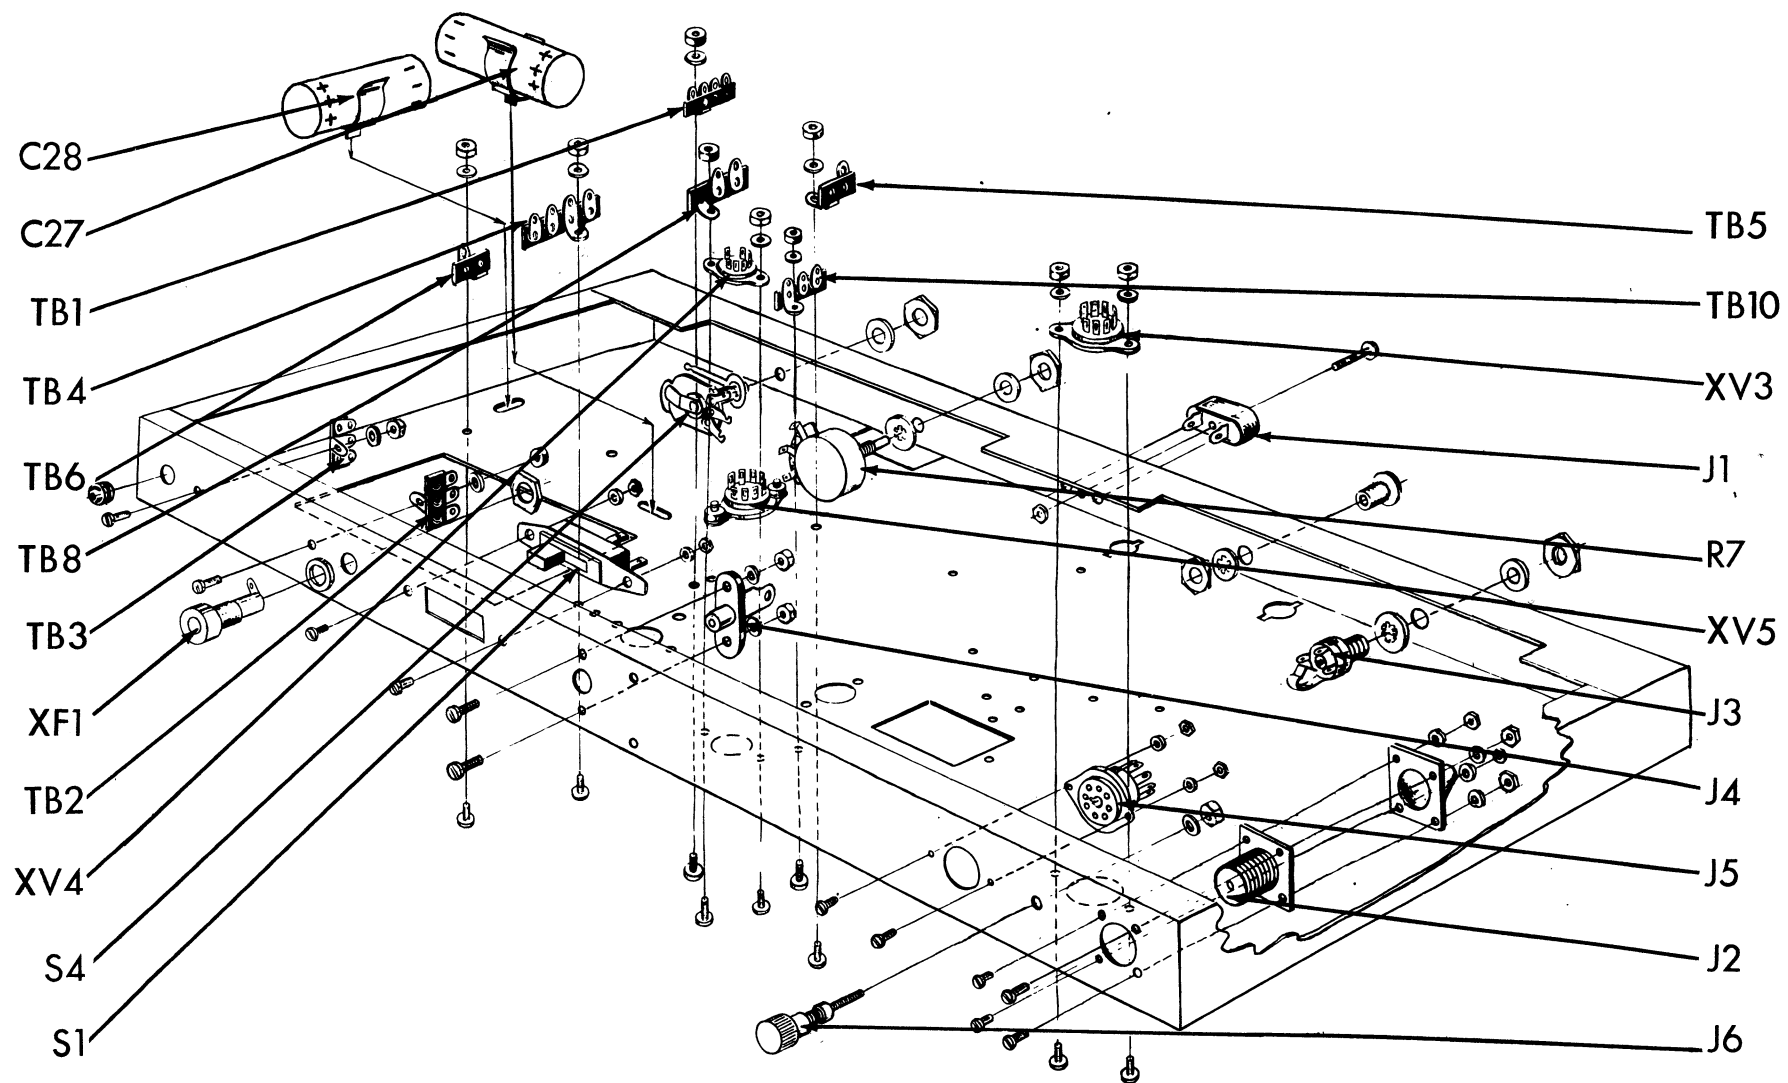
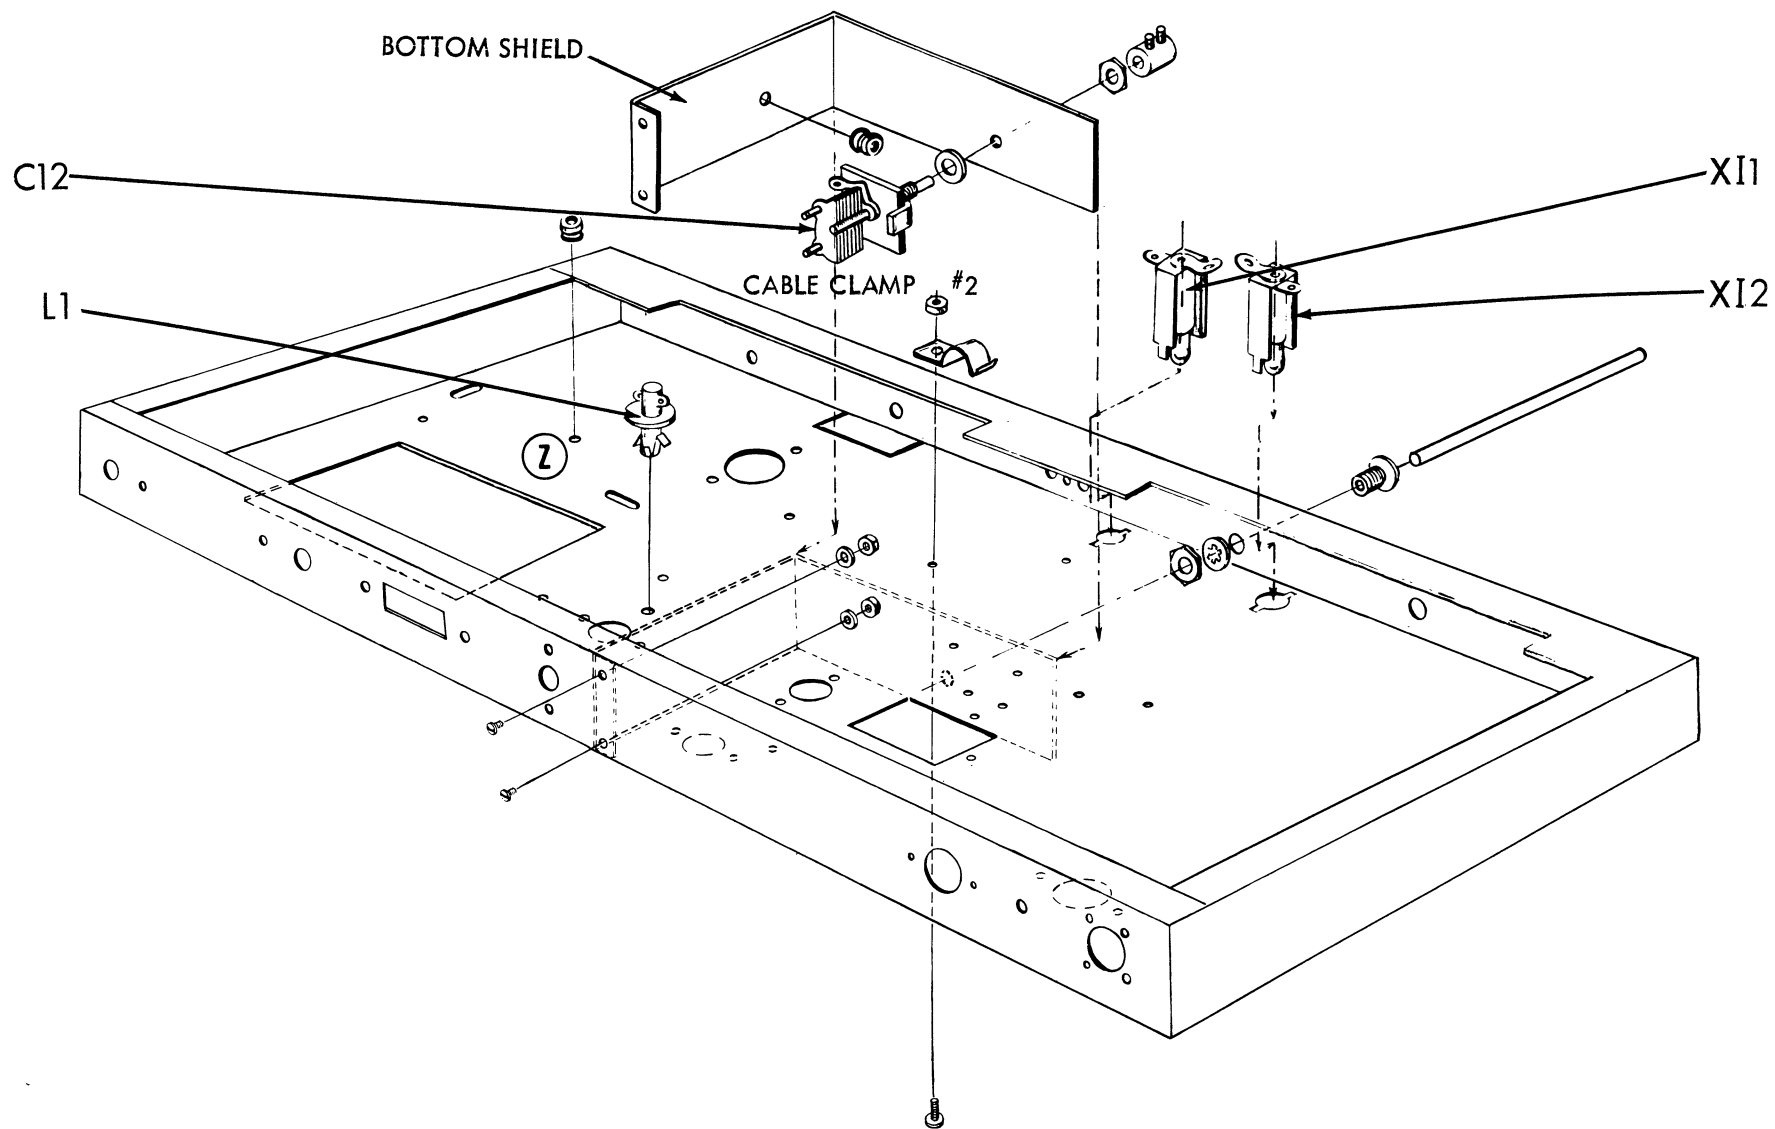
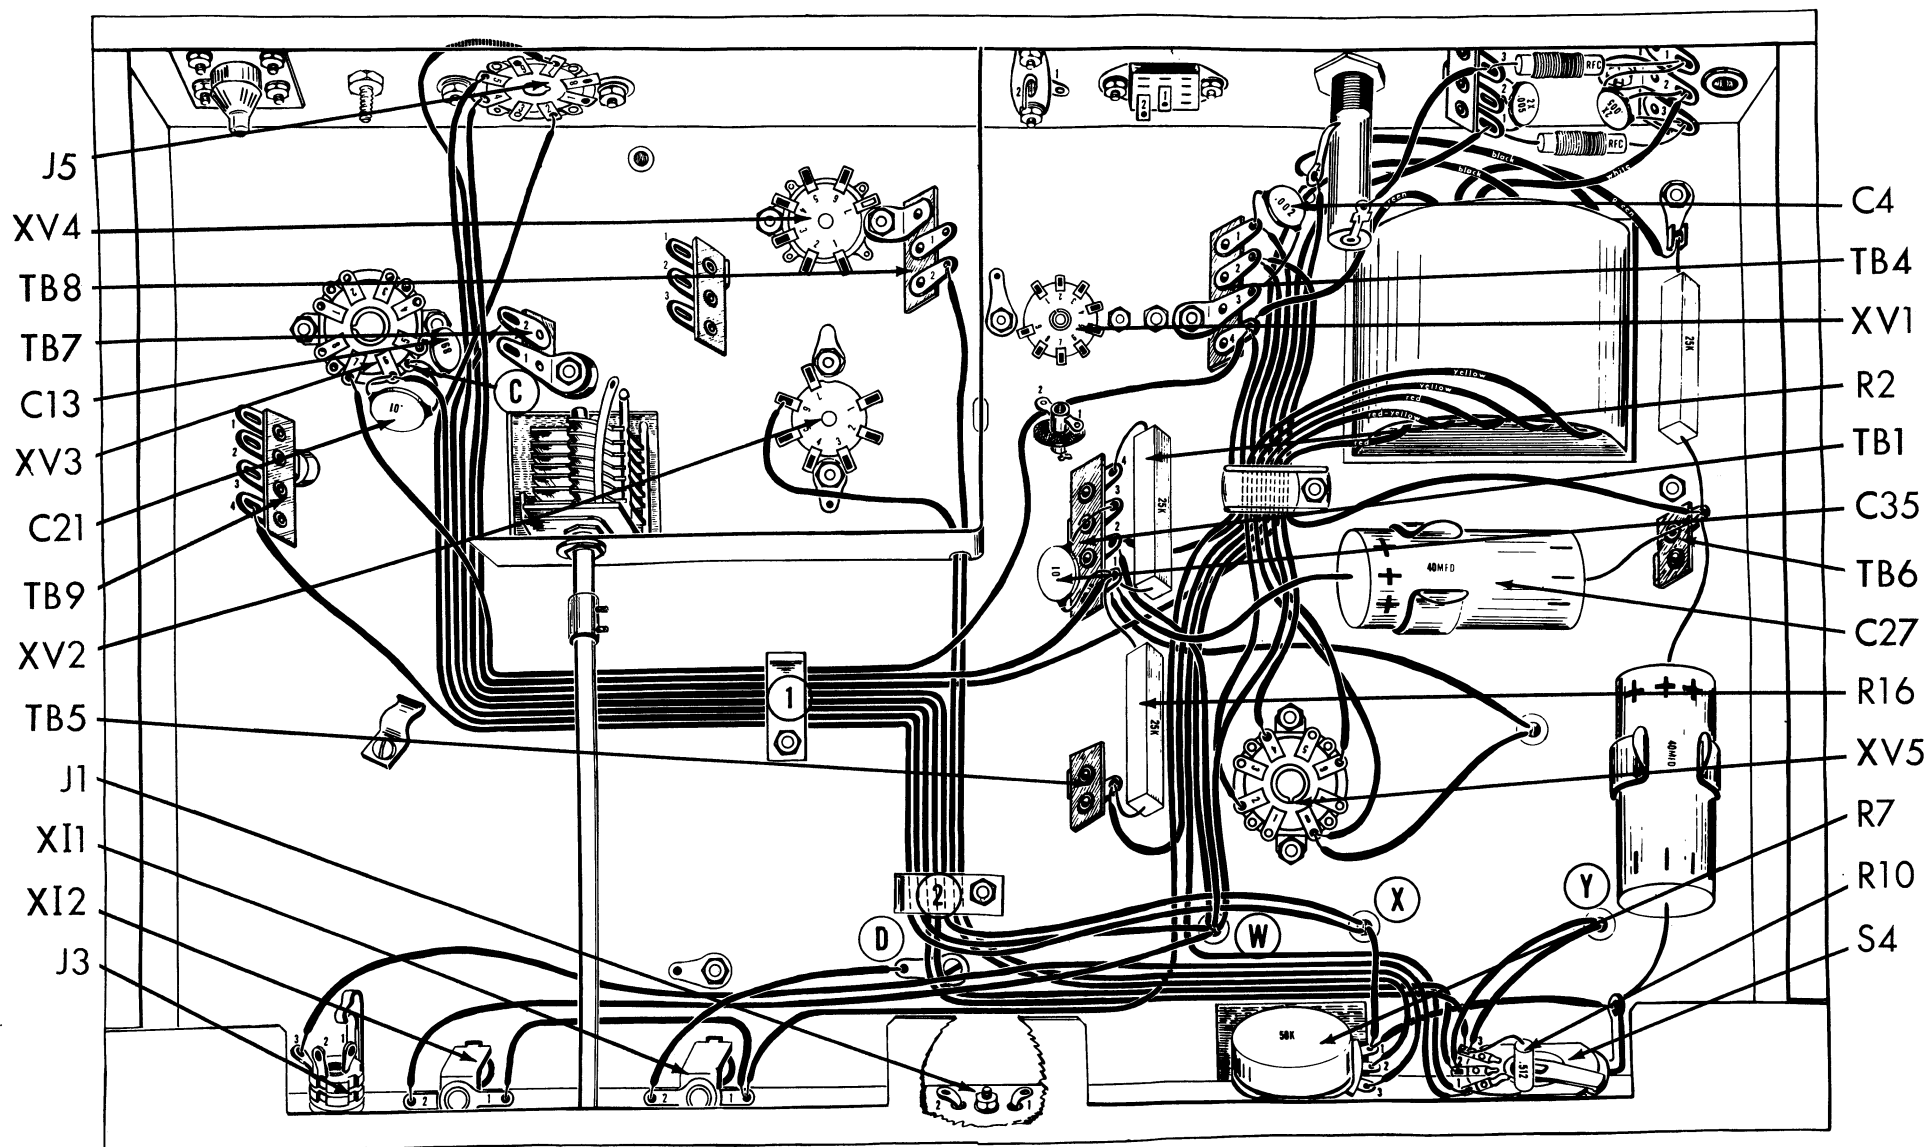

Fig. 1
Fig. 1A
Fig. 5
1. (✓) Fig. 1. Mount the two post with ground terminal strip, TB3, as shown. Use one #6-32 x 1/4 screw, one #6 lockwasher and one #6-32 hex nut.
2. (✓) Fig. 1. Push a 3/8" rubber grommet into the hole next to TB3.
3. (✓) Fig. 1. Mount the two post with ground terminal strip, TB2, as shown. Use one #6-32 x 1/4 screw, one #6 lockwasher and one #6-32 hex nut.
4. (✓) Fig. 1. Mount the single pole single throw slide switch, S1, as shown. See Fig. 5 for orientation. Use two #4-40 x 1/4 screws, two #4 lockwashers and two #4-40 x 1/4 hex nuts.
5. (✓) Fig. 1. Mount RCA phono jack, J4, as shown. See Fig. 4 for orientation. Use two #4-40 x 1/4 screws, two #4 lockwashers and two #4-40 x 1/4 hex nuts.
6. (✓) Fig. 1. Mount the octal socket, J5, as shown. Note direction of key at center of socket. Use two #6-32 x 1/4 screws, two #6 lockwashers and two #6-32 hex nuts.
7. (✓) Fig. 1. Mount binding post, J6, as shown. Do not use any insulating washers. Use one #8 lockwasher and one #8 hex nut.
8. (✓) Fig. 1. Mount the jack, J2, as shown. The cover for the jack (shield cup) and the jack are both mounted from the inside of the chassis. Use four #4-40 x 1/4 screws, four #4 lockwashers and four #4-40 x 1/4 hex nuts. Do not tighten the nuts as yet.
9. (✓) Fig. 1. The front panel is held against the front apron with the same 3/8 nuts used for mounting the switches, pots, capacitors, and jacks. This is
10. (✓) Fig. 1. Similar to the above, mount the pot, R7, as shown. Use one 3/8 lockwasher, one 3/8 flatwasher and one 3/8 hex nut.
11. (✓) Fig. 1. Mount the crystal holder jack, J1, as shown. Use a #4-40 x 3/4 screw and one #4-40 x 3/16 hex nut.
12. (✓) Fig. 1. In the hole next to J1, in the front apron, mount a 3/8 bushing. Use a 3/8 lockwasher and a 3/8 hex nut. Note that a 5" shaft will be pushed through this bushing.
13. (✓) Fig. 1. Mount the jack, J3, as shown. Use one 3/8 lockwasher, one 3/8 flatwasher and one 3/8 hex nut. J3 is to be mounted at an angle with the chassis, so that it will not short against the chassis when a plug is inserted.
14. (✓) Fig. 1. Mount the octal tube sockets, XV3 and XV5, as shown. Use two #6-32 x 1/4 screw, two #6 lockwashers and two #6-32 hex nuts. Note mounting direction in Fig. 4.
15. (✓) Fig. 1. Mount the 7 pin miniature tube socket, XV4, as shown. Use two #4-40 x 1/4 screws, one #4 lockwasher and two #4-40 x 1/4 hex nuts. Under one nut, mount a two post right terminal strip, TB8. Note orientation in Fig. 4.
16. (✓) Fig. 1. Mount the one post right terminal strip, TB6, as shown. Use one #6-32 x 1/4 screw, one #6 lockwasher and one #6-32 hex nut.
17. (✓) Fig. 1. Mount the two brackets for the 40mfd, 450 volts electrolytic capacitors, C27 and C28, as shown. These brackets snap in through the elongated holes. Push the capacitors into the brackets noting the polarity.
18. (✓) Fig. 1. Mount the three post, two left with ground terminal strip, TB1; three post two left with ground terminal, TB4; one post left terminal strip, TB5; and two post right with ground terminal strip, TB10, as shown. Use one #6-32 x 1/4 screw, one #6-32 lockwasher and one #6-32 hex nut as shown.
19. (✓) Fig. 1. Mount fuseholder, XF1, as shown. Use the small rubber washer under the head of the fuseholder outside the chassis and the fuseholder nut inside the chassis. Do not tighten this nut too much or fuseholder will crack.
1. (✓) Fig. 1A. Mount one cable clamp facing away from TB5, as shown. Use one #6-32 x 1/4 screw, one #6 lockwasher and one #6-32 hex nut. See Fig. 5.
2. (✓) Fig. 1A. Snap in the pi choke, L1, Stock #36014, as shown. Note direction in Fig. 6. Push the metal coil form bracket into the hole until the two small slips catch on top of the chassis.
3. (✓) Fig. 1A. Push the two #47 bulbs into the sockets, X11 and X12. Push these sockets with the bulbs into the mounting holes so that the bulbs extend to the top of the chassis. The sockets are held in place by the spring action of the socket legs. The clips at the end of each leg fits through the hole at the top of the chassis.
4. (✓) Fig. 1A. Mount the bottom shield in the chassis by pushing the two tabs through the small rectangular holes in the bottom of the chassis. Twist these tabs somewhat more than quarter of a turn. Do not twist too much or they will shear off. Secure the shield to the rear of the chassis with two #6-32 x 1/4 screws, two #6 lockwashers and two #6-32 hex nuts. Do not tighten nuts yet.
5. (✓) Fig. 1A. Remove the nut and all the washers from the bushing on the smallest variable capacitor, C12, Stock #29009. Next, mount the capacitor
6. (✓) Fig. 1A. Attach one side of the straight brass coupling with two set screws to the shaft on the condenser. There should be about 1/4" of the shaft of the condenser showing between the bushing on the capacitor and the edge of the brass coupling. Tighten the set screw on the capacitor shaft. Next, push the 5" shaft (mentioned in step 12, Fig. 1) through the bushing in the front panel of the chassis and into the remaining side of the straight brass coupling. Between 3/8" and 1/2" of shaft should stick out from the front of the panel. Adjust the shield and capacitor so that the shaft goes through the center of the bushing in the front panel. With the shaft perpendicular to the front panel, tighten the screws holding the bottom shield and the nut holding the variable capacitor. Also, tighten the remaining brass coupling set screw over this shaft.
7. (✓) Fig. 1A. Push a 1/4" rubber grommet into the side of the bottom shield.
8. (✓) Fig. 1A. Push a 1/4" rubber grommet into the hole "Z" near capacitors C27 and C28.
1. (✓) Fig. 5. Connect one end of a 17" piece of yellow wire to S4B-2 (C). Run the wire along the front apron of the chassis. Bend the wire at a right angle and run it under metal cable clamp 2; bend the wire again at a right angle and run through metal cable clamp 1; finally bend the wire at another right angle and run it along the chassis as shown. Connect the remaining end of the wire to TB7-2 (C).
2. (✓) Fig. 5. Cut both leads on a .01 mfd (10K or 10,000 mmf) disc capacitor, C21, to 1/2". Connect from XV3-6 (C) to ground lug "C" (C) at XV3.
3. (✓) Fig. 5. Cut both leads on a 68 mmf disc capacitor, C13, to 1/2". Connect from XV3-5 (C) to ground lug "C" (S2) at XV3.